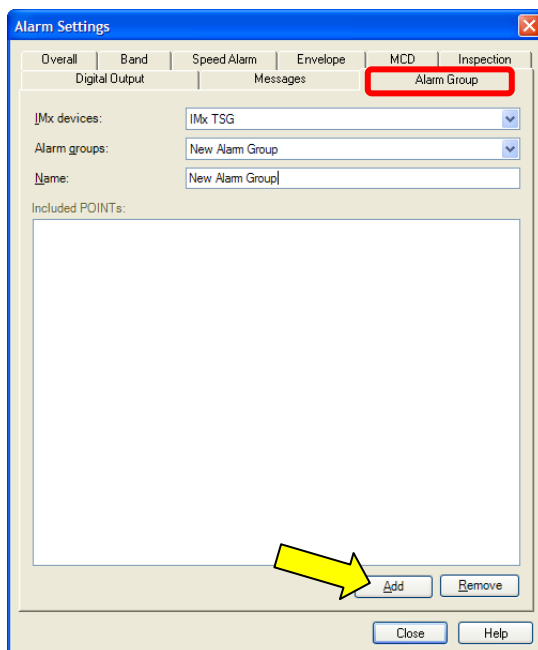

Figure 2. Alarm Settings
2. Select the **Alarm Group** tab, and then click the **Add** button. [Figure 2]